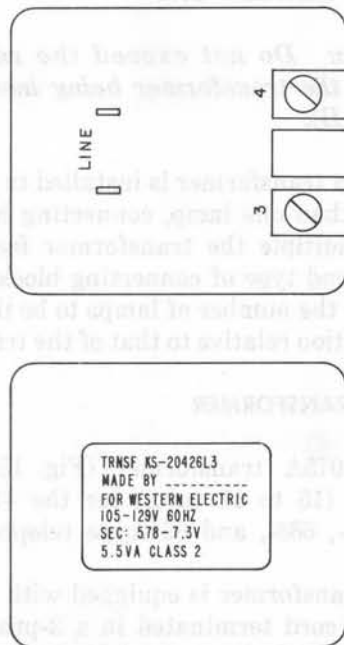

Fig. 12—KS-20426L3 Transformer (Current Version)
5.01 The KS-20426L3 transformer (Fig. 12) is intended for use in light systems and is mounted in a 2-wire receptacle. It will power 5 dial light telephone sets.